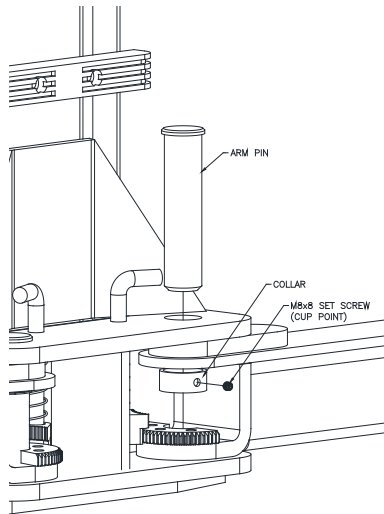

Fig 10 –Arm Pin Keeper Install
- 48) Slide the arm pin into the carriage, arm, and collar. **Fig 10.**